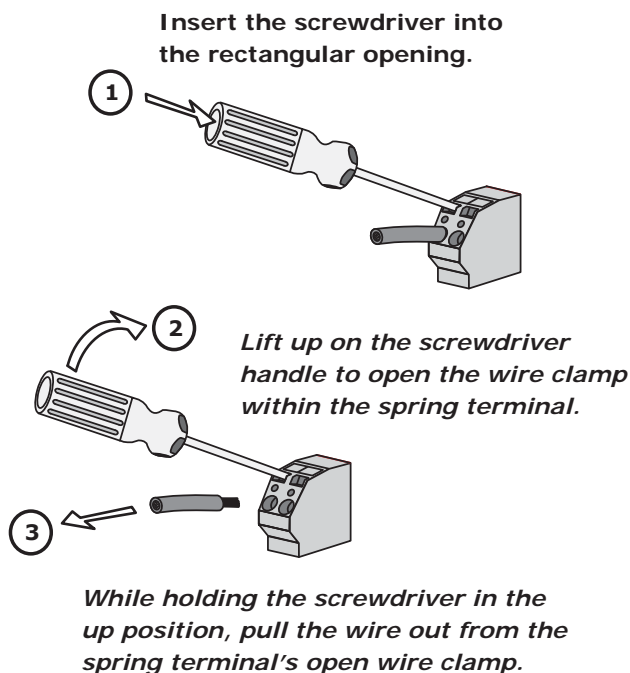

Figure 3, Spring Terminals (MSH models)
3. *MSH Models* – Using the slot head screwdriver, remove the four wires from the filter board's two spring terminals (refer to Figure 3).